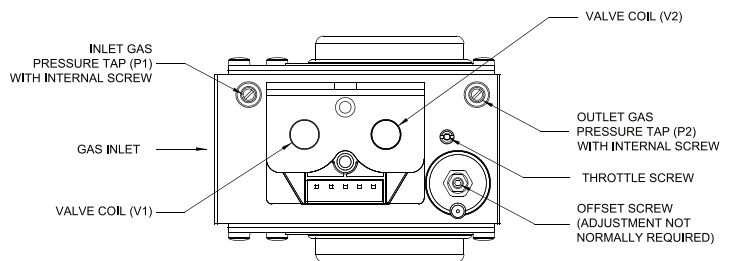

Figure 34: Gas Valve Detail
Make sure that all adjustments at high fire are made with the throttle, not offset screw (see Figure 34). The offset screw has been factory set using precision instruments and must never be adjusted in the field unnecessarily. Attempting to adjust the offset screw unnecessarily could result in damage to the gas valve and may cause property damage, personal injury or loss of life.
- b. If high fire O₂ is too low (CO₂ is too high), increase O₂ (decrease CO₂) by turning the throttle screw clockwise in 1/4 turn increments and checking the O₂ (or CO₂) after each adjustment. Refer to Figure 34 for location of throttle screw. Verify CO is less than 100 ppm.
valves, throttle screw adjustments must be done to both gas valves equally and simultaneously. Refer to Figure 34 for location of throttle screw. Verify CO is less than 100 ppm.
- e. If low fire O₂ is too low (CO₂ is too high), increase O₂ (decrease CO₂) by turning offset screw counterclockwise in less than 1/8 turn increments and checking the O₂ (or CO₂) after each adjustment. If boiler is equipped with 2 gas valves, offset screw adjustments must be done to both gas valves equally and simultaneously. Refer to Figure 34 for location of offset screw. Verify CO is less than 100 ppm.
- f. If low fire O₂ is too high (CO₂ is too low), decrease O₂ (increase CO₂) by turning offset screw clockwise in less than 1/8 turn increments and checking the O₂ (or CO₂) after each adjustment. If boiler is equipped with 2 gas valves, offset screw adjustments must be done to both gas valves equally and simultaneously. Refer to Figure 34 for location of offset screw. Verify CO is less than 100 ppm.
1. **Conversion** of Phantom models PHNTM399 and PHNTM500 from one fuel to another is accomplished using the throttle screw on the gas valve. Figure 34 “Gas Valve Detail” shows the location of the throttle screw on the valve. Locate the throttle screw on the boiler being converted.